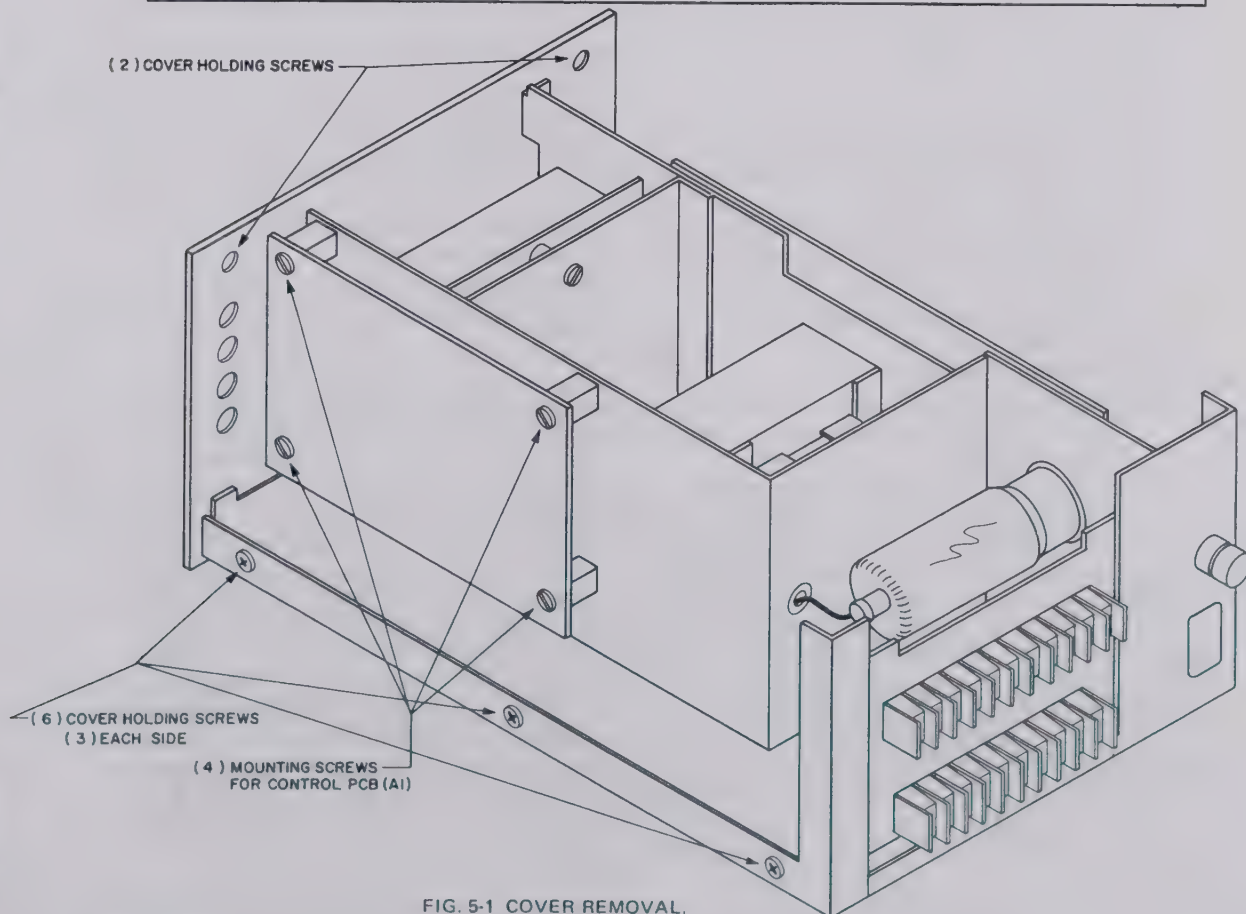

FIG. 5-1 COVER REMOVAL.
- 5-4 The wrap-around cover and the main printed circuit board (A1) may be easily removed by following the directions given in FIG. 5-1 below.